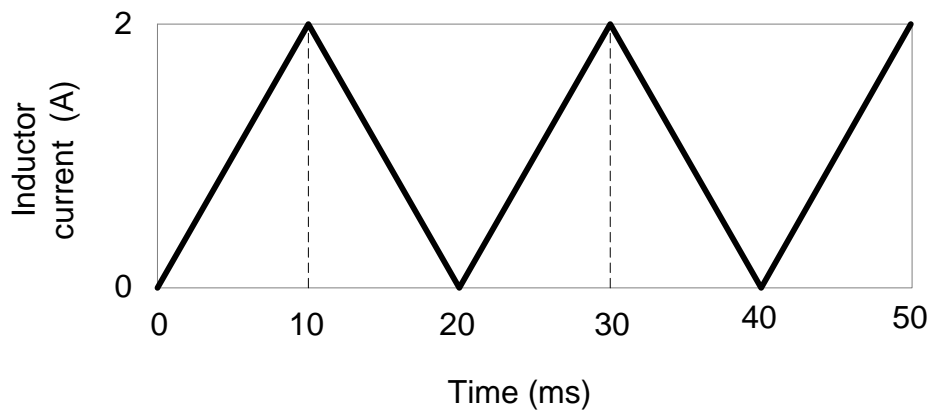

Figure Q1
- (d) For an inductor load $L=1\text{mH}$, the steady-state inductor current waveform is shown in Figure Q1,